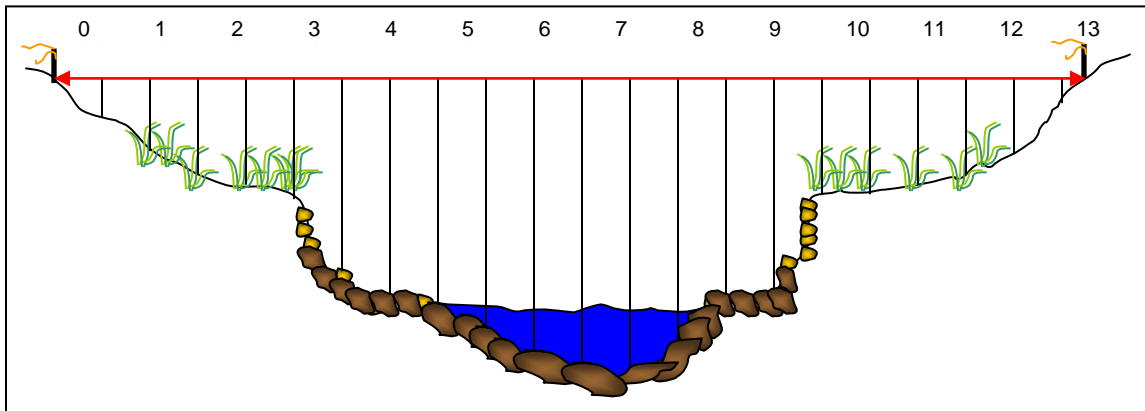

Figure 13 – Survey the cross section by taking a reading at every foot
- Continue, taking a reading every horizontal foot, until you reach the right-bank benchmark (Figure 13).